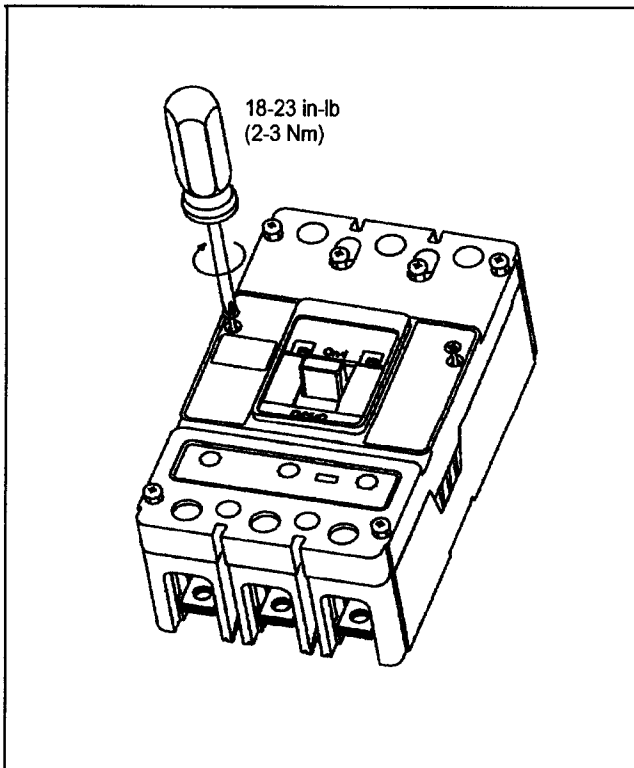

Fig. 2-4 Cover Screw Installation Positions
- 2-6. With circuit breaker handle in OFF position and accessory pigtail leads (if used) routed as required, install circuit breaker cover. Secure with pan-head screws followed by thread-forming screws, as shown in Fig. 2-4.